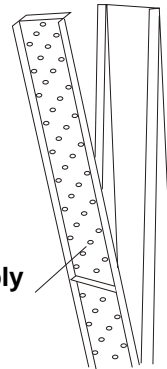

Figure 4-12. Inner Plate Disassembly
4. To remove an inner plate, pull its end away from the finger manifold, then, lift it out and up, as shown in Figure 4-12.